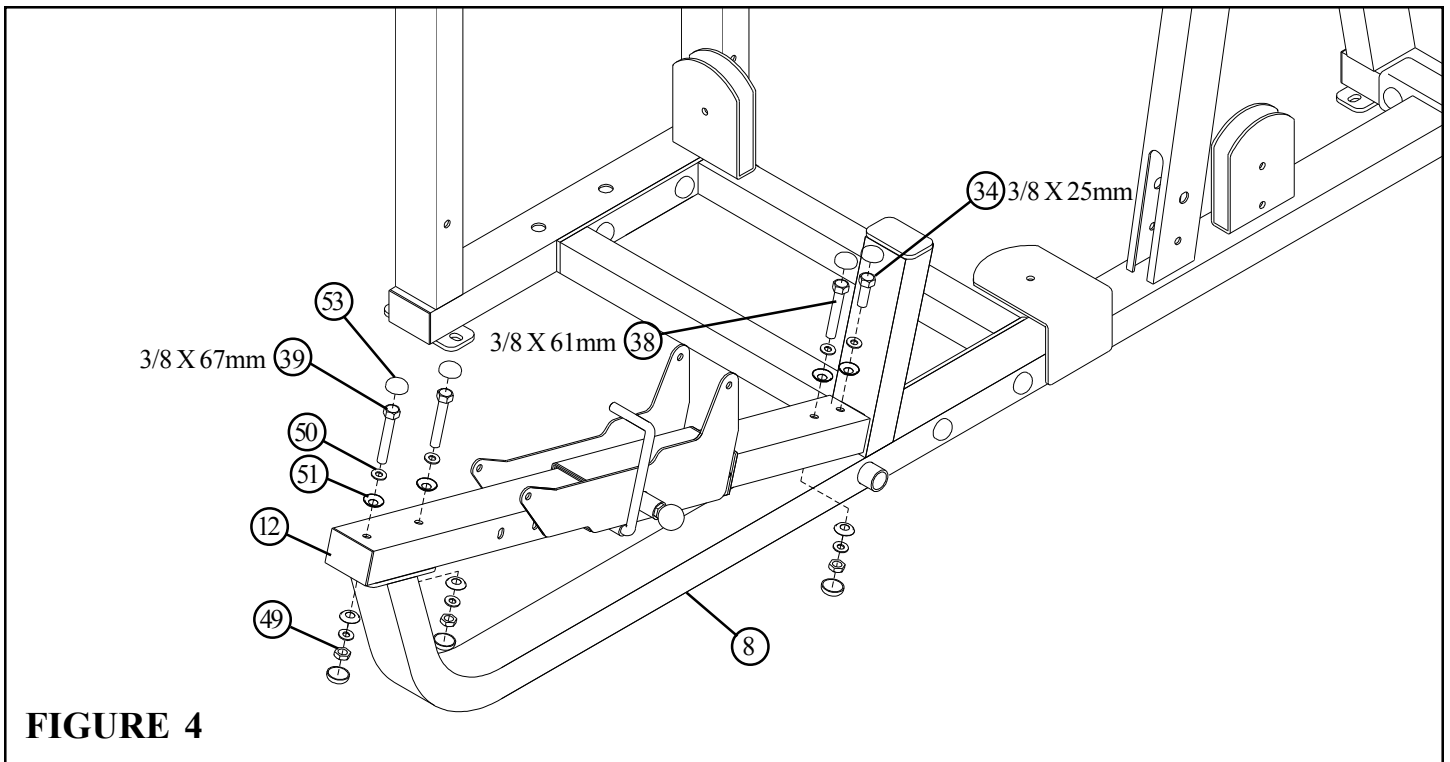

FIGURE 4
- **SECURELY** assemble the SLIDE TUBE (12) to the PRESS FRAME (8) using seven RH CAPS (53), two 3/8 X 67mm BOLTS (39), one 3/8 X 61mm BOLT (38), one 3/8 X 25mm BOLT (34), seven 3/8" SAE WASHERS (50), seven 3/8" RH WASHERS (51) and three 3/8" LOW HEIGHT LOCK NUTS (49) as shown in FIGURE 4.